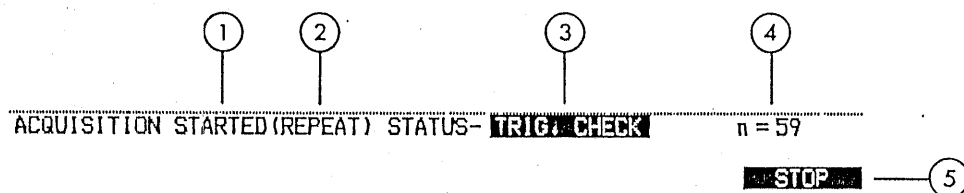

Figure 10.1 Data Recording Status Display
- (1) NO CLOCK: This status is such that the sampling clock is set for an external clock but no effective clock is received after starting data recording. (EXT+ or EXT- for PARALLEL data recording, or DAV+ or DAV- for GP-IB data recording)
- (2) NO DATA: This status is such that the [STOP] key is pressed when in the status of (1), that synchronization is not established for SERIAL data, or that not a single word of data is recorded yet.
- (3) HOLD OFF: This status is for recording of PARALLEL data only. Although data is recorded even when in this status, no trigger word detection is done. For details, refer to Section 10.9.
- (4) TRIG CHECK: This state is such that triggers are checked referring to the TRIGGER WORD, FILTER and POLARITY settings and the number of events is counted. When in the SERIAL mode, consecutive TRIGGER WORDS 1 and 2 are checked.
- (5) EVENT COUNT: This status is for the SERIAL mode only and indicates that consecutive TRIGGER WORDS 1 and 2 have been received once at least and the next combination of TRIGGER WORDS 1 and 2 are being checked.
- (6) DELAY COUNT: This status is such that counting of events is over and counting for delay is being done.
- (7) DATA CHECK: This status is such that one sequence of data recording is completed and data display and repeat control are being checked. In this case, ① of Figure 10.1 "Data Recording Status Display" indicates "STOP".
- (8) STOP SW ON: Indicates that the [STOP] key is pressed.